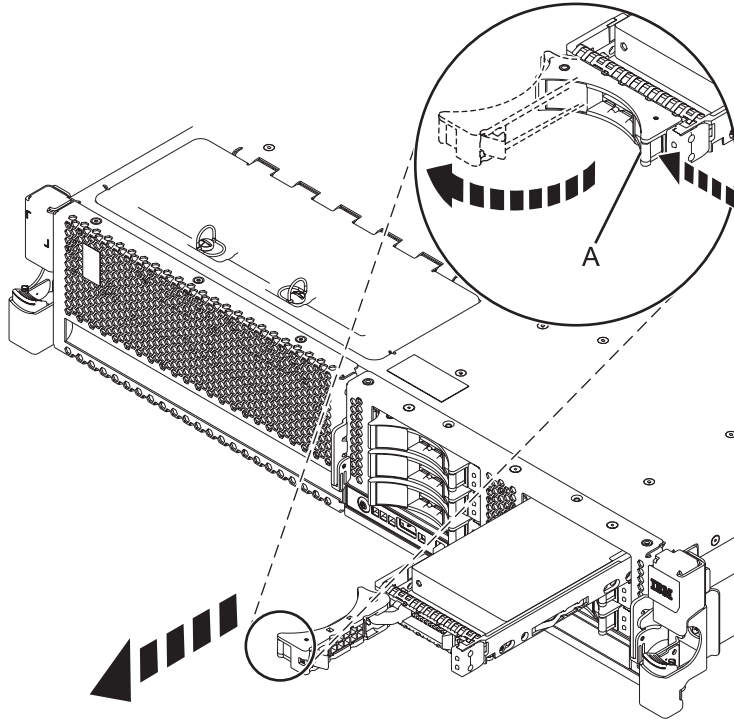

Figure 12. Removing a disk drive from the system
3. When the identify LED turns on solid, unlock the drive handle by squeezing it and pulling it out toward you, as shown in Figure 12 on page 23. If the handle is not all the way out, the disk drive or solid-state drive cannot slide out of the system or out of the expansion unit.